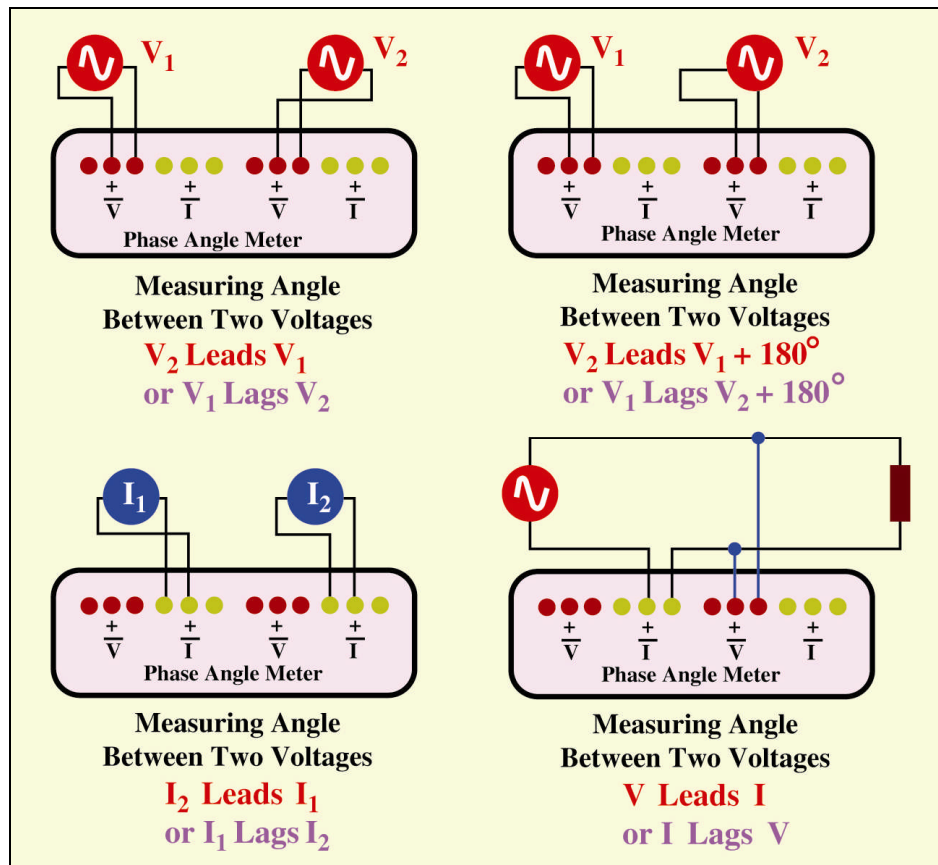

Fig. 5-1 Typical Phase Angle Meter Connections
5. Connect input signals (Fig. 5-1) to the appropriate terminals for both circuit #1 and #2. Each group of 3 input terminals is isolated from the instrument case and from all other terminals. This allows the operator complete freedom to use any polarity of each input signal. To serve as a guide and test purpose call instructor to choose for you one of the following examples of typical connections and inputs. Do not connect more than one input to either input circuit. For example, a current and a voltage may not be simultaneously connected to the same circuit #1. All unused input terminals must remain unconnected. Do not connect a voltage source across a pair of current input terminals. This will place very low impedance across the voltage source causing damage either to the source or phase-meter.